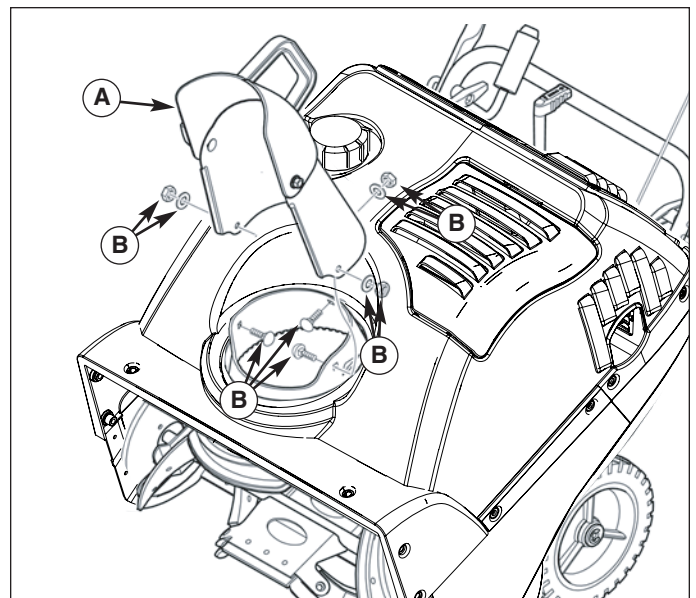

Figure 12. Chute Removal and Installation
1. Remove the fasteners (B, Figure 12) that secure the chute (A) to the top cover.
2. Remove the chute (A).